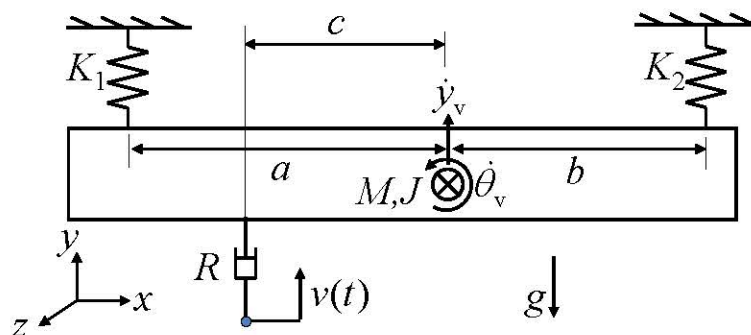

Figure 3
4. Derive the state-space equations of the system shown in Figure 3. Consider only vertical motion and pitch in the model.